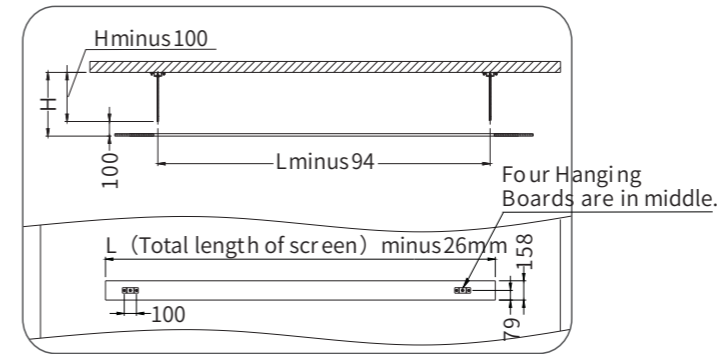
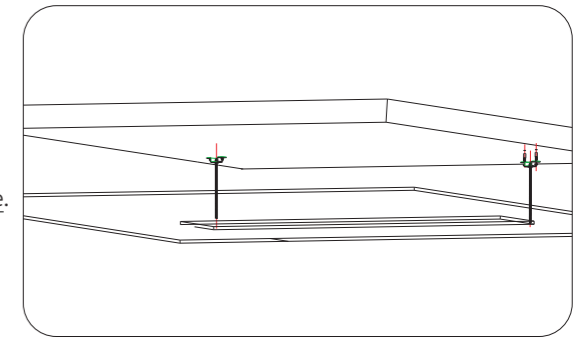

Figure 4
Figure 5
3. Please measure the security distance between hanging brackets (figure 4), and fix the hanging brackets on the ceiling using expansion screws (figure 5).